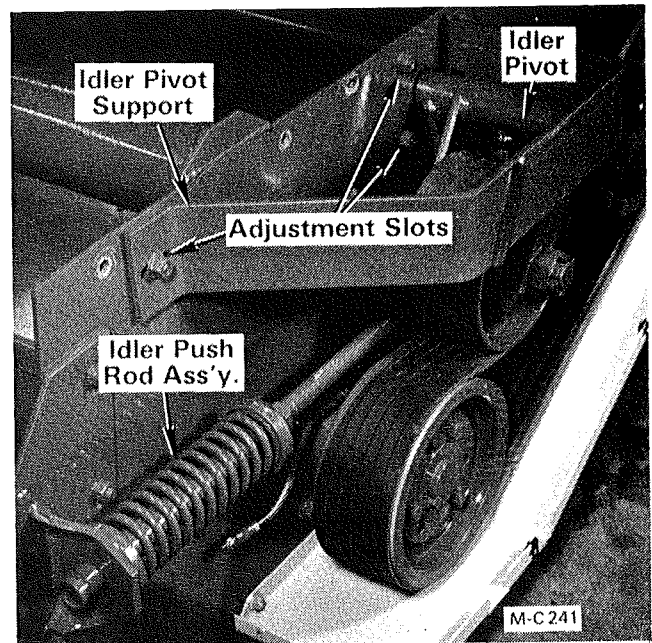

Figure 47 - Idler Push Rod Ass'y. Below S/N 50439
4. Remove the three capscrews, lockwashers and hex nuts securing the idler pivot support to the Shredder body, see Figure 47 & 48. Remove the idler pivot support and pull the idler pulley assembly off of the idler pivot.
5. Remove cotter pin (1), castellated nut (2) and idler bolt (6) from the idler arm (5).
7. Pack the new bearing cones (9) with a good grade of wheel bearing grease. Press the bearing cups (10) into the hub, install bearing cones (9) and press in the bearing seals (8).
8. Put a hub spacer (7) on each side of the hub assembly and place the assembly in the idler arm (5). Install idler bolt (6) and castellated nut (2). Tighten the nut just enough to hold the assembly together.
9. Place the idler pulley assembly on the idler pivot. Install the idler pivot support, see Figure 47 & 48. Do not tighten the capscrews until after the idler pulley alignment has been checked.